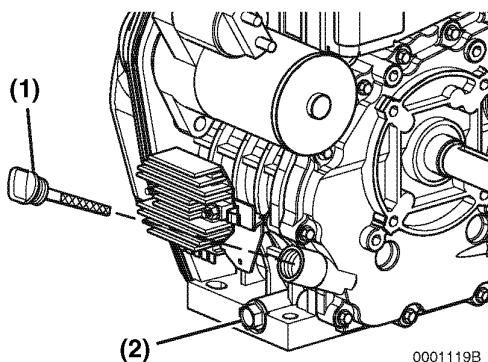
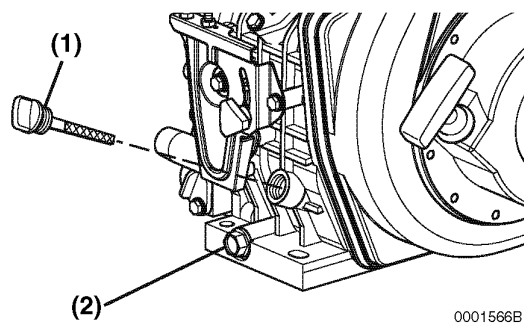

Figure 5-2
Figure 5-3
5. Remove one of the drain plugs located on the bottom of the cylinder block (**Figure 5-2, (2)**) or (**Figure 5-3, (2)**). Allow oil to drain. **WARNING! The engine oil will be hot after engine operation. ALWAYS stay clear of hot engine oil to avoid being burned.**
6. Remove the oil cap / dipstick (**Figure 5-2, (1)**) or (**Figure 5-3, (1)**) to allow the engine oil to drain more easily. **NOTICE:** Prevent dirt and debris from contaminating the engine oil. Carefully clean the oil cap/dipstick and the surrounding area before you remove the cap.
7. After all oil has been drained from the engine, reinstall the drain plug (**Figure 5-2, (2)**) and tighten to 173 - 208 lb-in.lb-in. (19.6 - 23.5 N·m, 2.0 - 2.4 kgf/m).